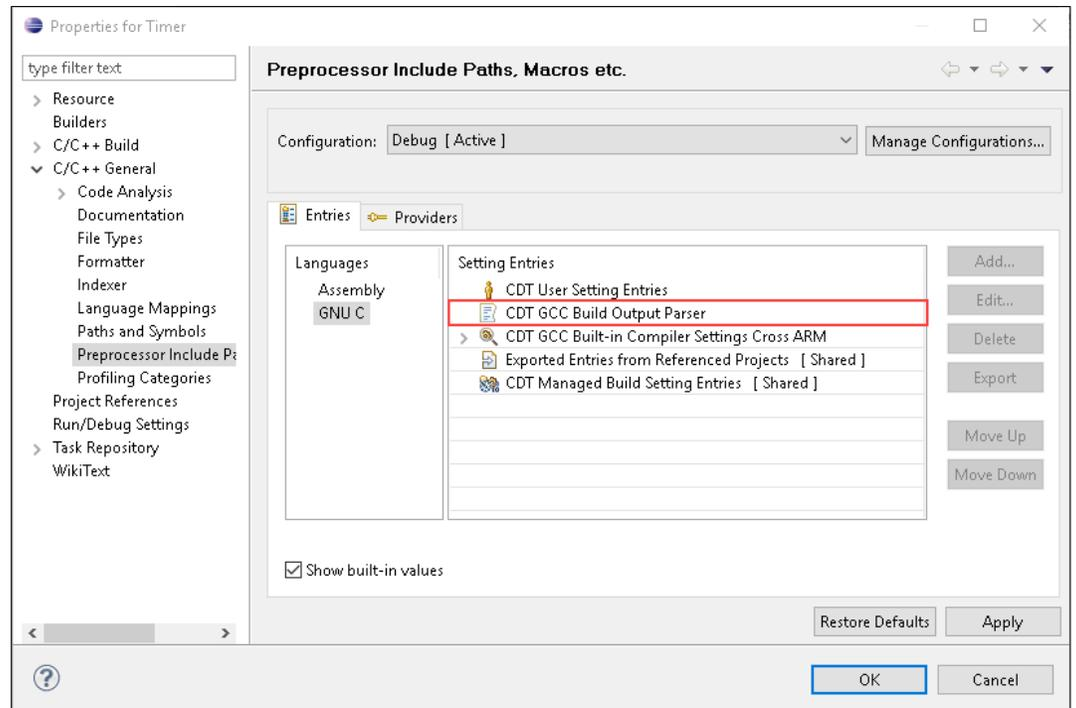

Figure 27. Entries tab on the Preprocessor Include Paths, Macros etc. dialog box.
- ii. Expand the **C/C++ General** option, and select **Preprocessor Include Paths, Macros etc.** The Preprocessor Include Paths, Macros etc. controls appear in the right panel on the **Entries** tab, as shown in **Figure 27**.